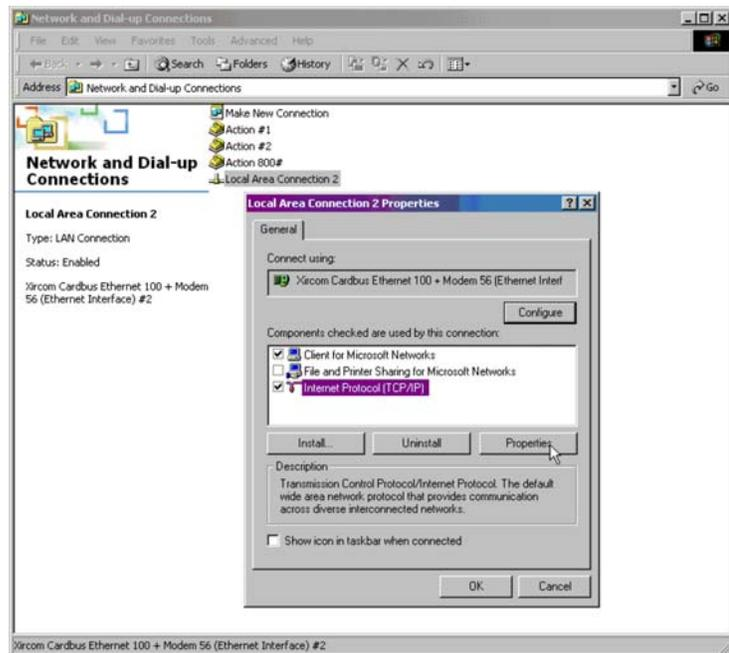

FIGURE A1
2. Somewhere in the list you should have a Local Area Connection, as shown in Figure A1. Right click on that and select properties again. This will open the Local Area Connection Properties box, also shown in Figure A1. One of the components in the list should be Internet Protocol (TCP/IP). Hi-lite that item and click the properties button. Take note of your current settings so you can restore them later.